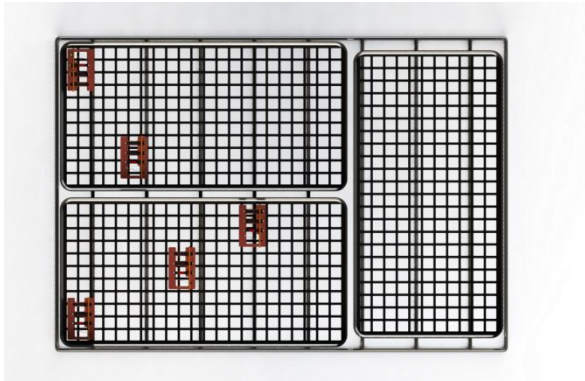

Fig 5.1.1. Setup for 3 Din Basket shelf.
- a. Fig 5.1.1. a deluge washer with three Din basket self and as per shelf.